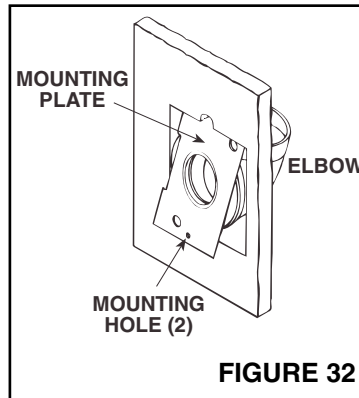

FIGURE 32
3. Refer to Figure 32. Glue elbow to mounting plate, place assembly into cutout, and attach elbow to tubing inside the wall.